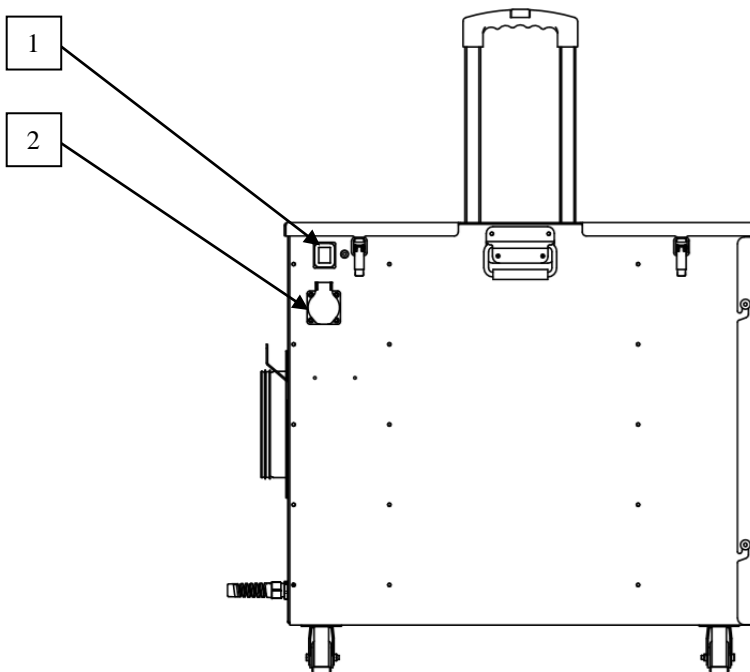

Fig. 4. Device start-up.
- Adjust expected efficiency by placing the main switch [1] to position „I” – low efficiency or „II” – high efficiency Fig. 4.